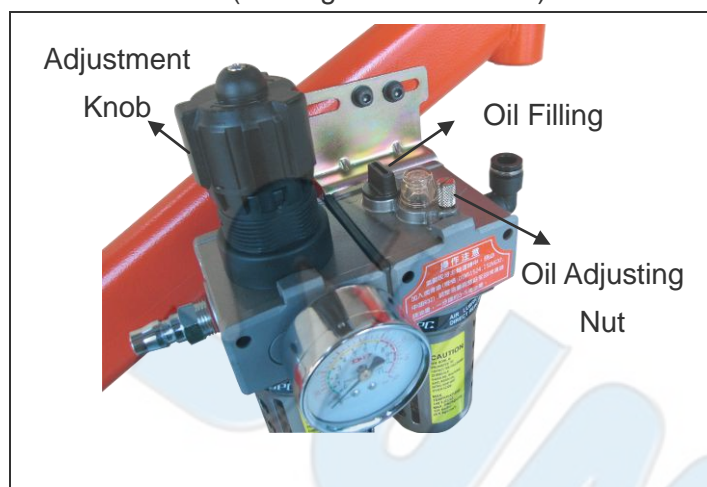

Figure 8-1
① Lacking of oil will cause the parts of spindle get damaging easily in a short time. ①
- (1) Add lubricant to the air unit body. Unscrew the oil filling plug and add approximately 8-10 ounces of oil. Replace plug and tighten securely. The oil filling plug has to be closed to original situation (see Figure 8-1).
- (2) Recommended lubricant : ISO VG22, CPC Circulation Oil R32
- (3) Pull the adjustment knob up and adjust air pressure to 7~9 kgf/cm². Turn the adjustment knob clockwise to increase the pressure and counter clockwise to reduce the pressure. After adjusting the pressure, press the knob down into its locked position to prevent accidental setting change (see Figure 8-1).
- (4) Depress and hold the operation lever of the spindle. While the spindle is operating, check the oil flow rate through the sight glass on top of the air unit body. The air unit should operate 3-5 drops/minute. Rotate the oil adjusting screw clockwise to decrease the oil flow rate; counterclockwise to increase the oil flow rate (see Figure 8-1 and 8-2).